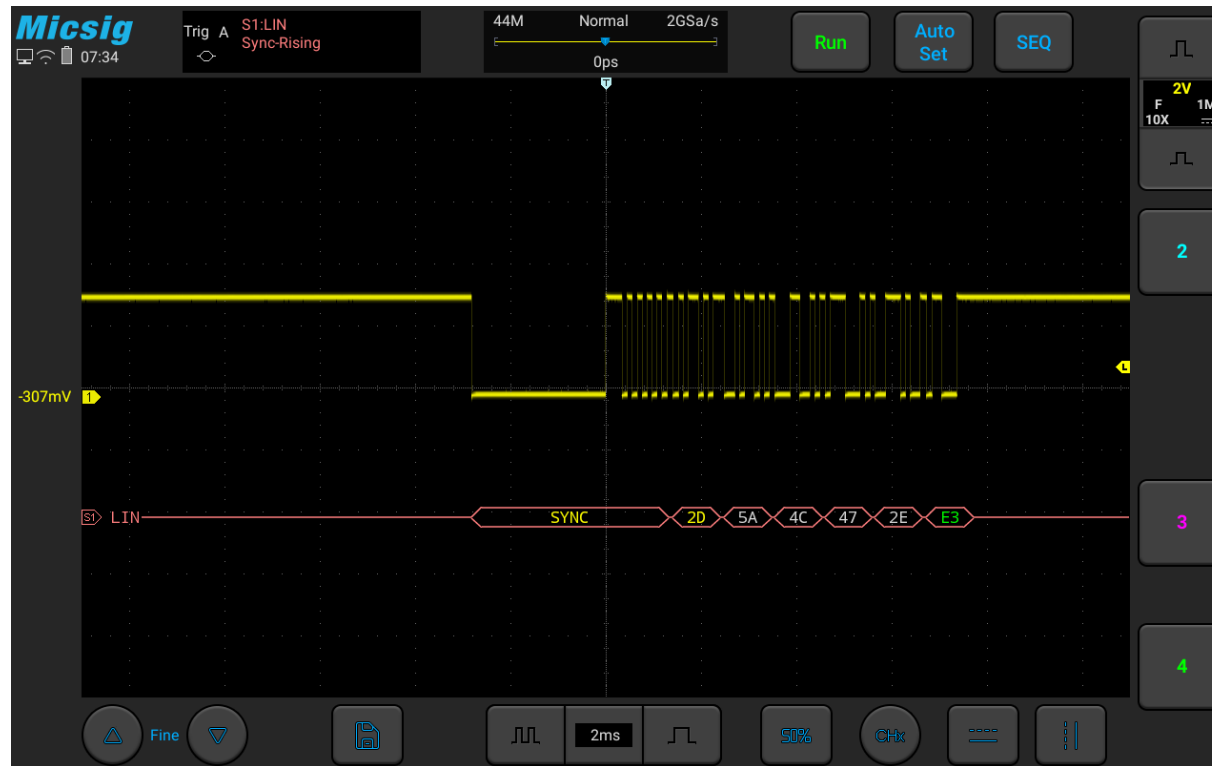

Figure 11-12 LIN Graphic Interface
- (1) Tap S1 to open the decode channel, and click again to open the bus configuration menu;
- (2) Select the bus type as “LIN”, click “Ch1”, “Idle High”, “19.20kb/s”, and then close the menu;
- (3) Open the trigger mode configuration menu and click “Synchronous Rising Edge”;
- (4) Click  configuration information to open the decode channel threshold level adjustment box, and drag the adjustment box upward and downward to adjust the threshold level; adjust the threshold level according to the signal amplitude level to make the signal stably triggered. The LIN trigger graphic interface is shown in Figure 11-12: